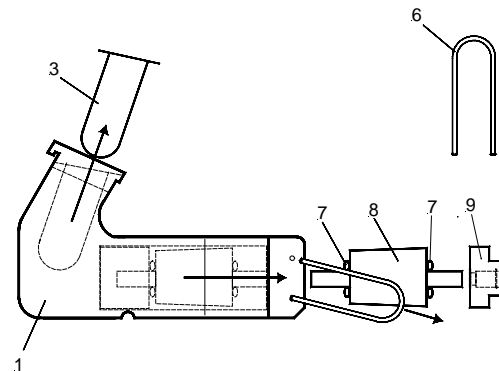

Fig. 23c
When the suction power and suction window are set in a correct way, the section to be disposed of gets via the suction slot in the knife carrier into the filter unit, consisting of a coarse filter for collecting section waste and a micro filter for filtering the air (fig. 23c). Section waste is collected in the coarse filter. This coarse filter must be replaced depending on the volume of waste. The micro filter must also be replaced regularly, however, at least every 6 months.
- Pull off the locking fork (fig. 23c.6).
- Remove seal (fig. 23c.9) and remove the micro filter (fig. 23c.8).
- Insert the seal (fig. 23c.9) again and fix it via the locking fork (fig. 23c.6).